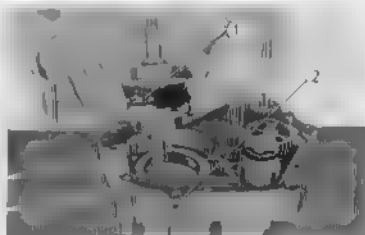

Fig. 3.81 Removing the crankshaft
- The crankshaft assembly (1) can be removed from the left crankcase. (2) (Fig. 3.81)